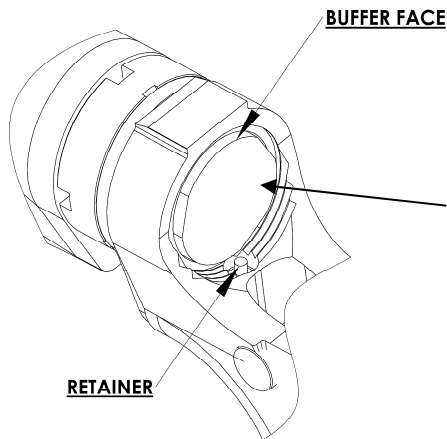
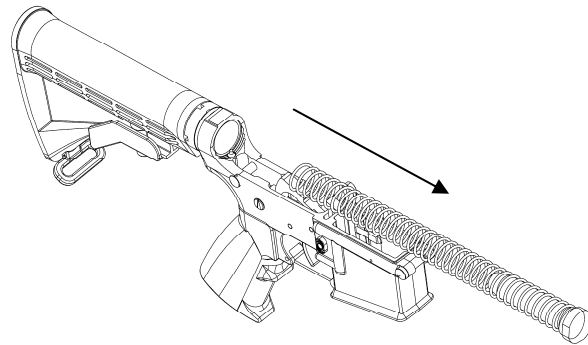

Figure 32.
Figure 33.
1. The retainer and the buffer spring must be held simultaneously in order to remove safely. (Figure 32). Push on the buffer face while holding the retainer down with another finger or a suitable tool. Carefully remove the buffer with the buffer spring. (Figure 33).